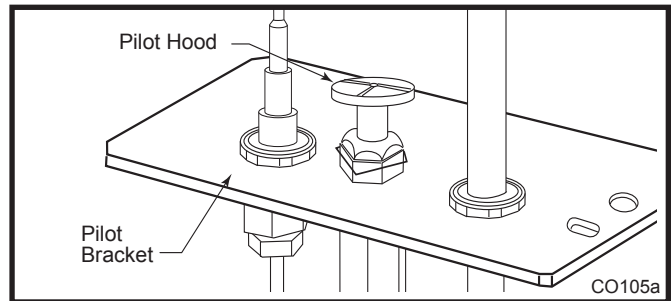

Fig. 9 Remove pilot hood.
- Remove pilot hood by lifting up. (Fig. 9) Do not remove snap ring to remove pilot hood. **NOTE:** It is not necessary to remove the pilot tube for conversion.